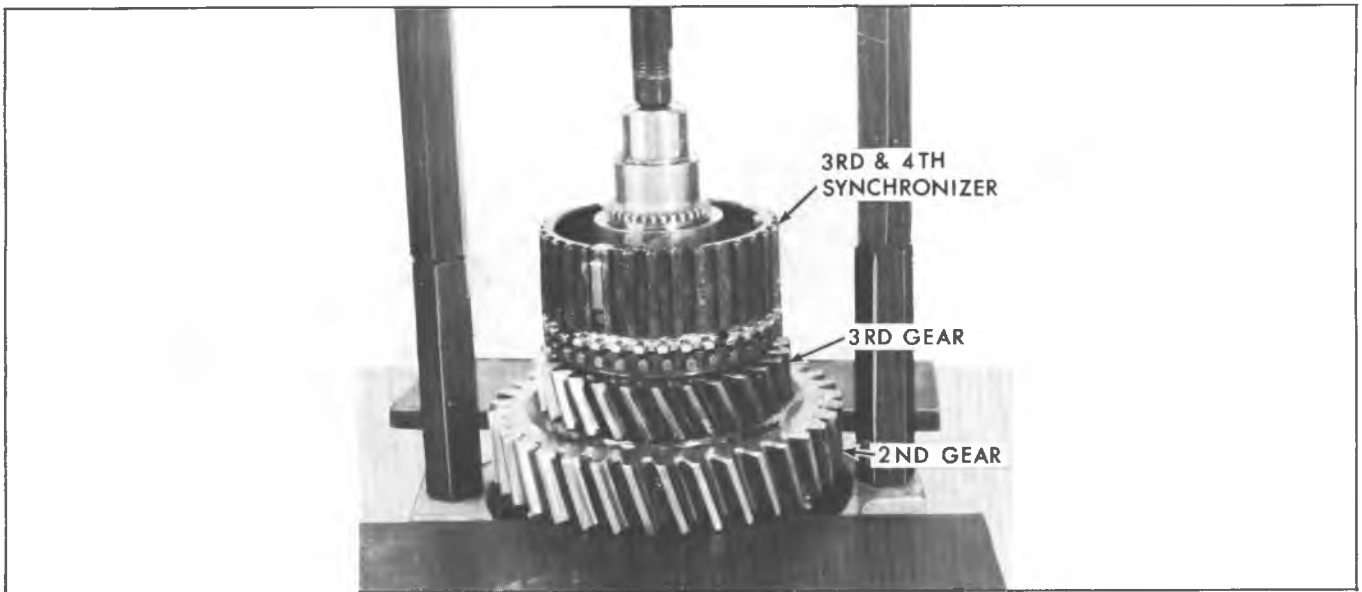

Fig. 4X--Disassembly of Mainshaft
4. Press behind second speed gear to remove 3rd-4th synchronizer assembly, 3rd speed gear and 2nd speed gear along with 3rd speed gear bushing and thrust washer (fig. 4X).